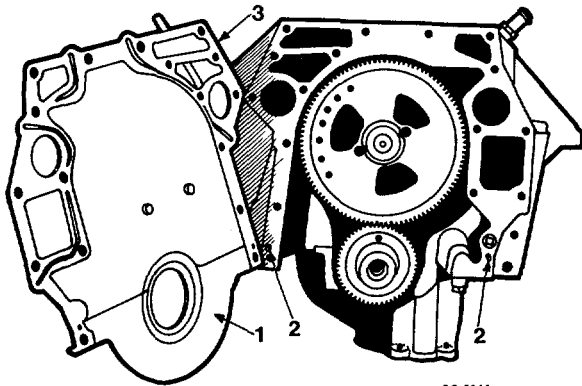

Fig. 51 Removal of Engine Front Cover
57. Remove the engine front cover mounting bolts and lift the cover from the crankcase, Figure 51.